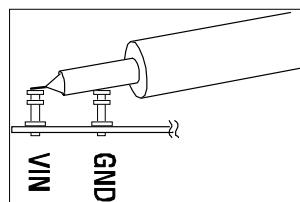

Figure 2. Measuring Input or Output Ripple
NOTE: When measuring the input or output voltage ripple, care must be taken to avoid a long ground lead on the oscilloscope probe. Measure the input or output voltage ripple by touching the probe tip directly across the Vin or Vout and GND terminals. See the proper scope probe technique in figure 2.
5. Set the load current of both outputs to 3A and the input voltage to 15V, and then measure each output ripple voltage (refer to figure 2 for proper measurement technique); they should each measure less than 30 mVAC. Also, observe the voltage waveform at either switch node (pins 23 & 24 for reg.1 and 13 & 14 for reg.2) of each regulator. The switching frequencies should be between 800 kHz and 1.2 MHz ($T = 1.25 \mu s$ and $0.833 \mu s$). To realize 2 MHz operation, change the shunt position on header JP14. In all cases, both switch node waveforms should be rectangular in shape, and 180° out-of-phase with each other. Change the shunt position on header JP11 to set the switch waveforms in phase with respect to each other. To operate the ckt.s in Burst Mode™, change the shunt in header JP8 to the Burst Mode™ position. When finished, insert shunts XJP1 and XJP2 to the OFF position(s) and disconnect the power.